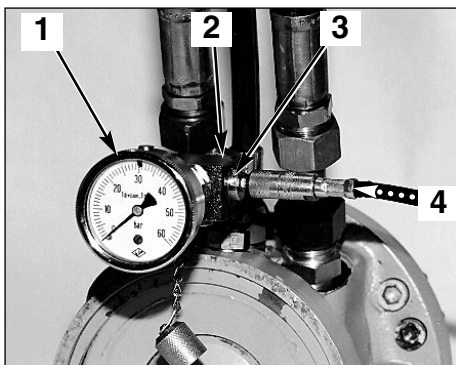

Fig. 6
- Fit a connecting block (2 fig. 6) equipped with a standard grease nipple (3 fig. 6).
- Connect the grease gun (4 fig. 6).
- **Operate the gun until the pressure gauge reads 30 bars (1 fig. 6).**